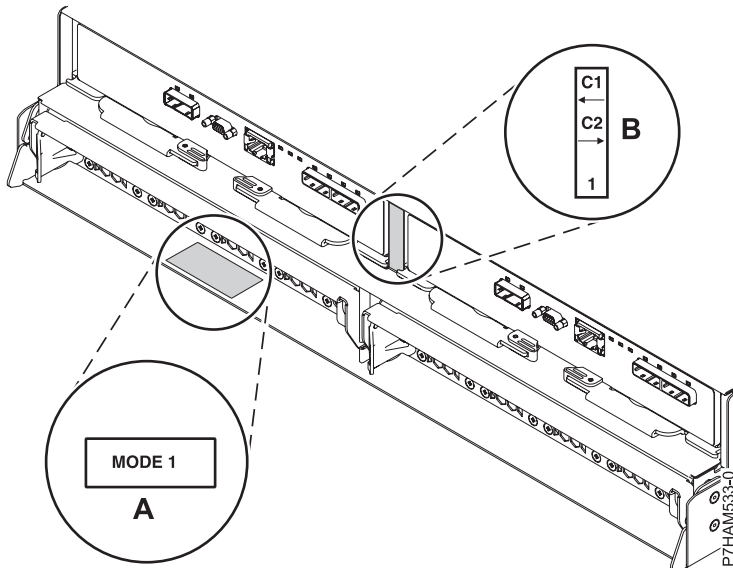

Figure 35. Mode sticker locations at the rear of the 5887 disk drive enclosure
2. Confirm the factory-set mode of the enclosure by using information that is printed on stickers at the rear of the enclosure. Stickers are attached to the lower-left shelf of the chassis (A) and the center support between the enclosure services manager modules (B). The stickers indicate whether the enclosure is set to mode 1, mode 2, or mode 4. For details, see Figure 35.